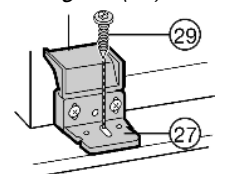

Fig. 24
- ▶ Preassemble by passing a long screw *Fig. 24 (29)* through the oblong hole in the plastic bracket *Fig. 24 (27)*.
- ▶ Fold down the cover of the plastic bracket *Fig. 24 (27)*.